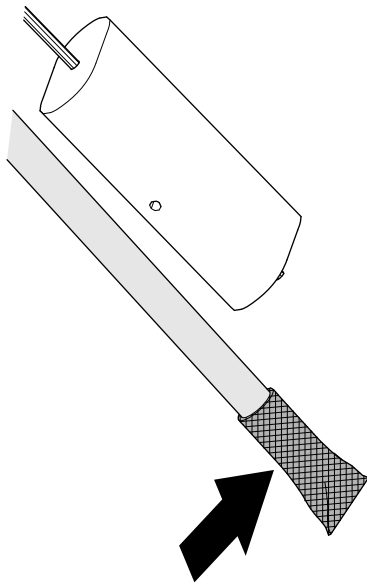

Figure 89
1. Clean the screen at the end of the fuel pick-up tube (Figure 89).